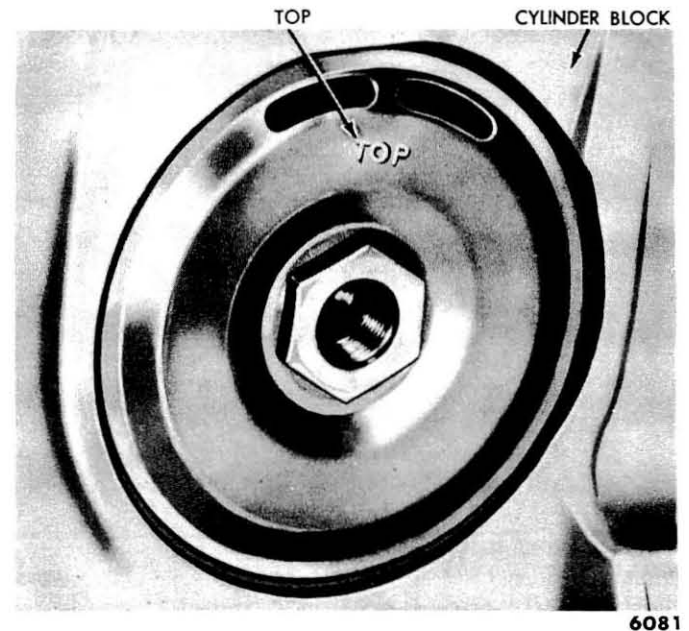

Fig. 43—Oil Filter Diaphragm Position
(5) **INSTALLATION.** Be sure the two elongated holes in the oil filter diaphragm are at the top, when positioned on the block, as shown in fig. 43. Install a new neoprene gasket in the filter housing recess. Place the filter assembly in position, and thread the center bolt into the adapter, finger-tight. Rotate the filter assembly slightly, in each direction, to make sure the gasket is seated evenly. Tighten the center bolt to 20-25 foot-pounds torque.